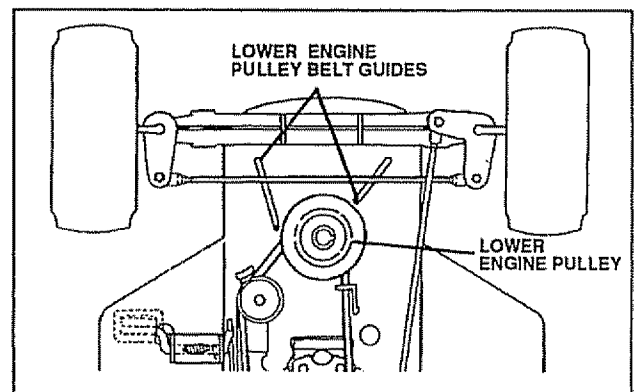

FIG. 24
- Pull lower engine pulley belt guides away from pulley (see Fig. 24).